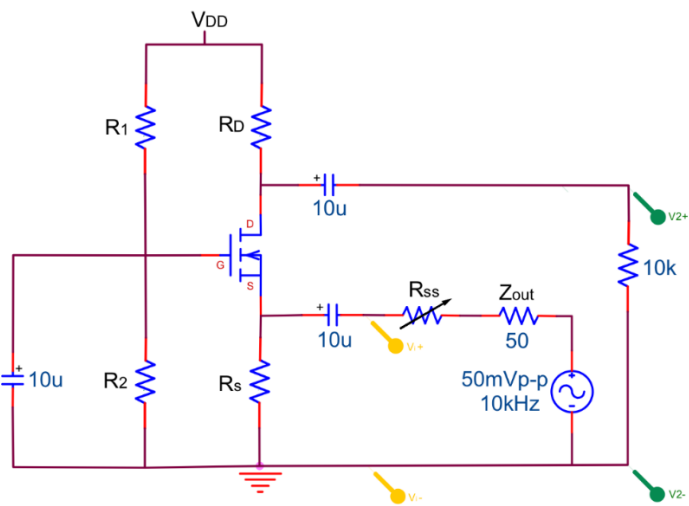

Figure 11.5
5. Return the signal generator voltage output to 50 mVp-p. Measure and record the output voltage of the amplifier. This is v_1 . Leaving the signal generator voltage constant, insert increasing resistor values in series between the generator output and the amplifier input (see Figure 11.5) until the output of the amplifier drops approximately to one half v_1 . Record this value as v_2 . Calculate the input impedance of the amplifier using the following equation: